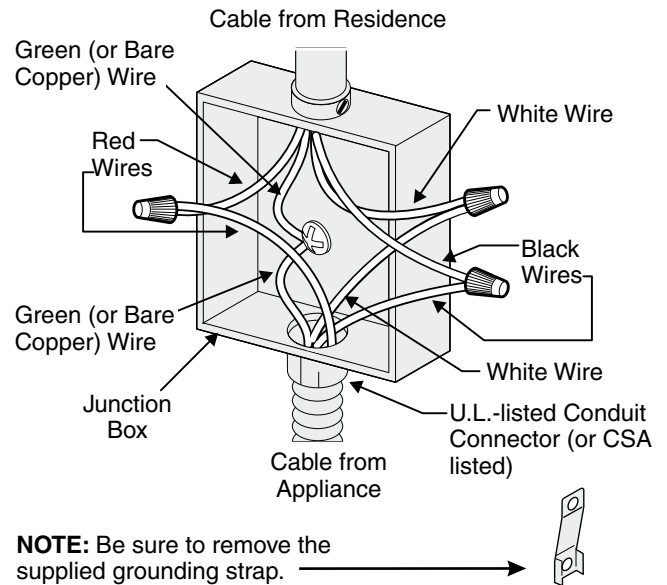

Figure 11 – 4-Wire Electrical System
Where local codes DO NOT permit connecting the appliance-grounding conductor to the neutral (white) wire, or if connecting to 4-wire electrical system (see Figure 11):
3. In the circuit breaker, fuse box or junction box (Fig. 11):